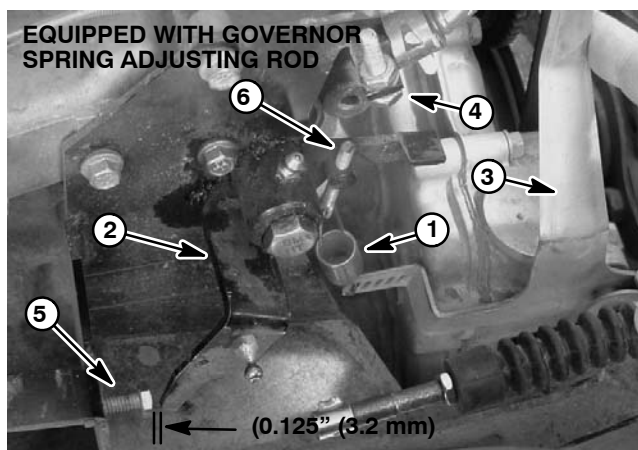

Figure 4
- C. Position the rear edge of the bellcrank so it is 0.125 in. (3.2 mm) from the head of the low idle stop screw (Fig. 4). At this position, the governor spring must be tight against the upper edge of the engine governor lever slot with no extension of the spring coils. If necessary, adjust low idle stop screw and/or governor spring adjusting rod (if equipped) to allow correct governor spring positioning.